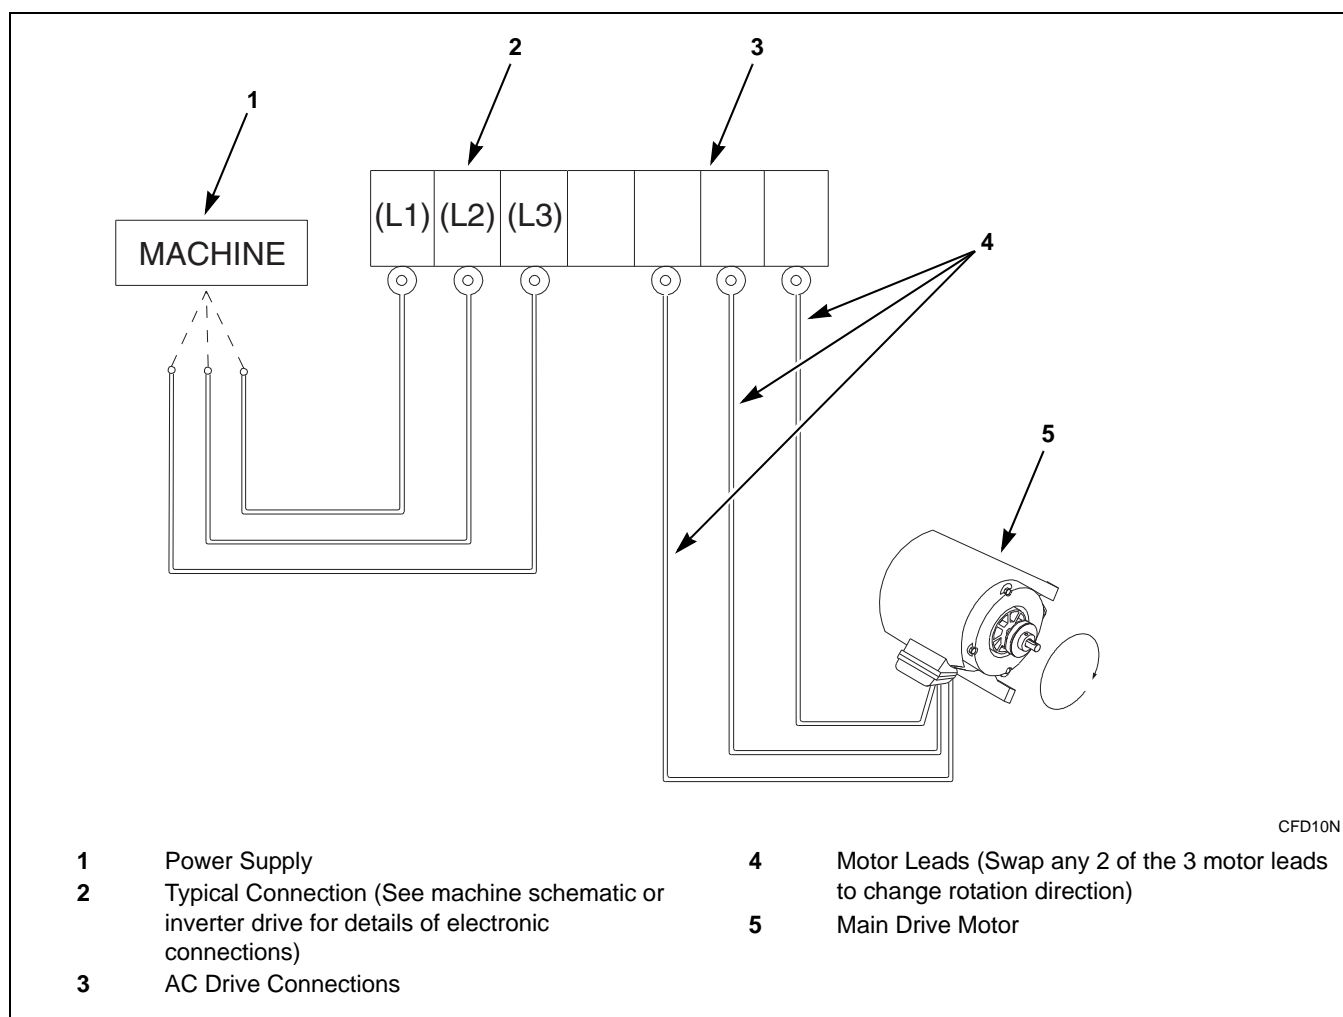

Figure 18
8. Cylinder rotation must be clockwise in an extract step for all models. If rotation is not correct, disconnect power. A qualified electrician must reverse any two leads between the AC drive and the main drive motor. Refer to *Figure 18*.